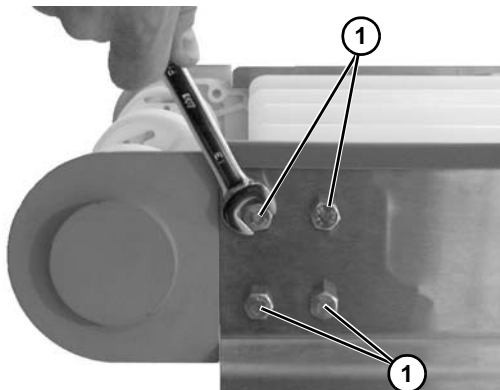

Figure 46
2. Remove four head plate bolts (Figure 46, item 1). Repeat on opposite side.